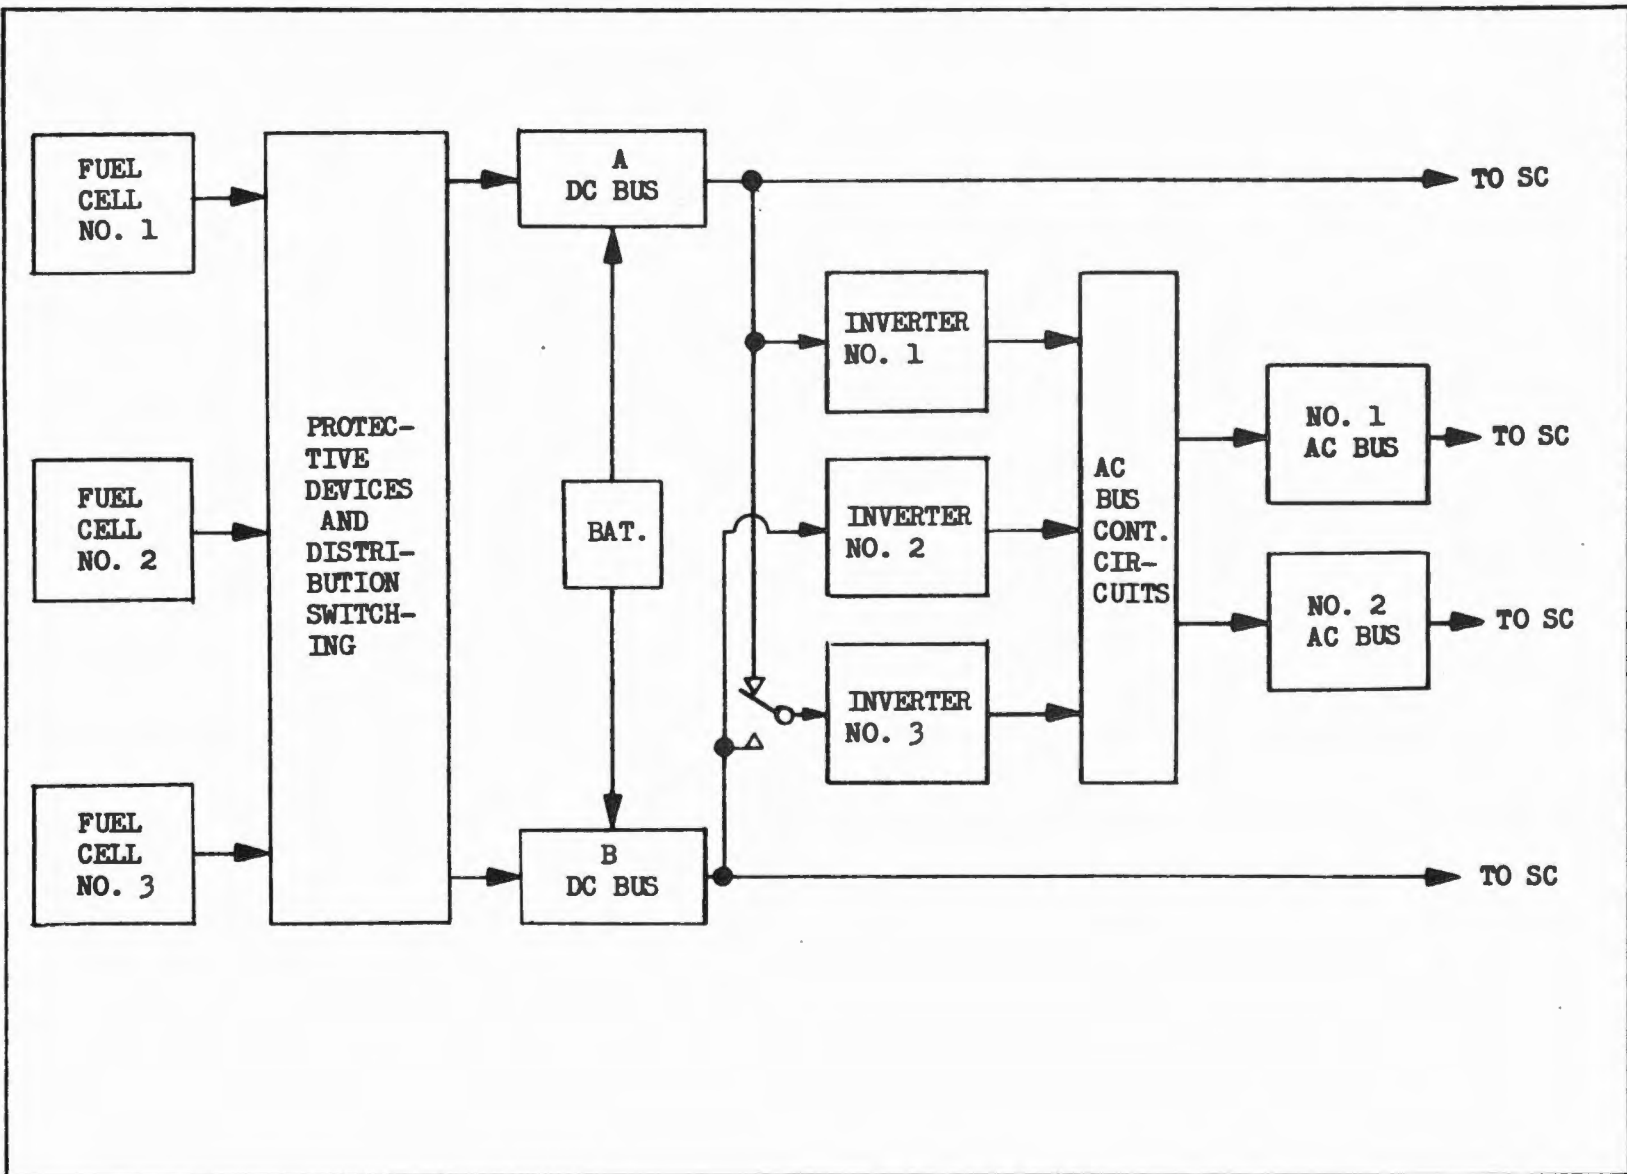
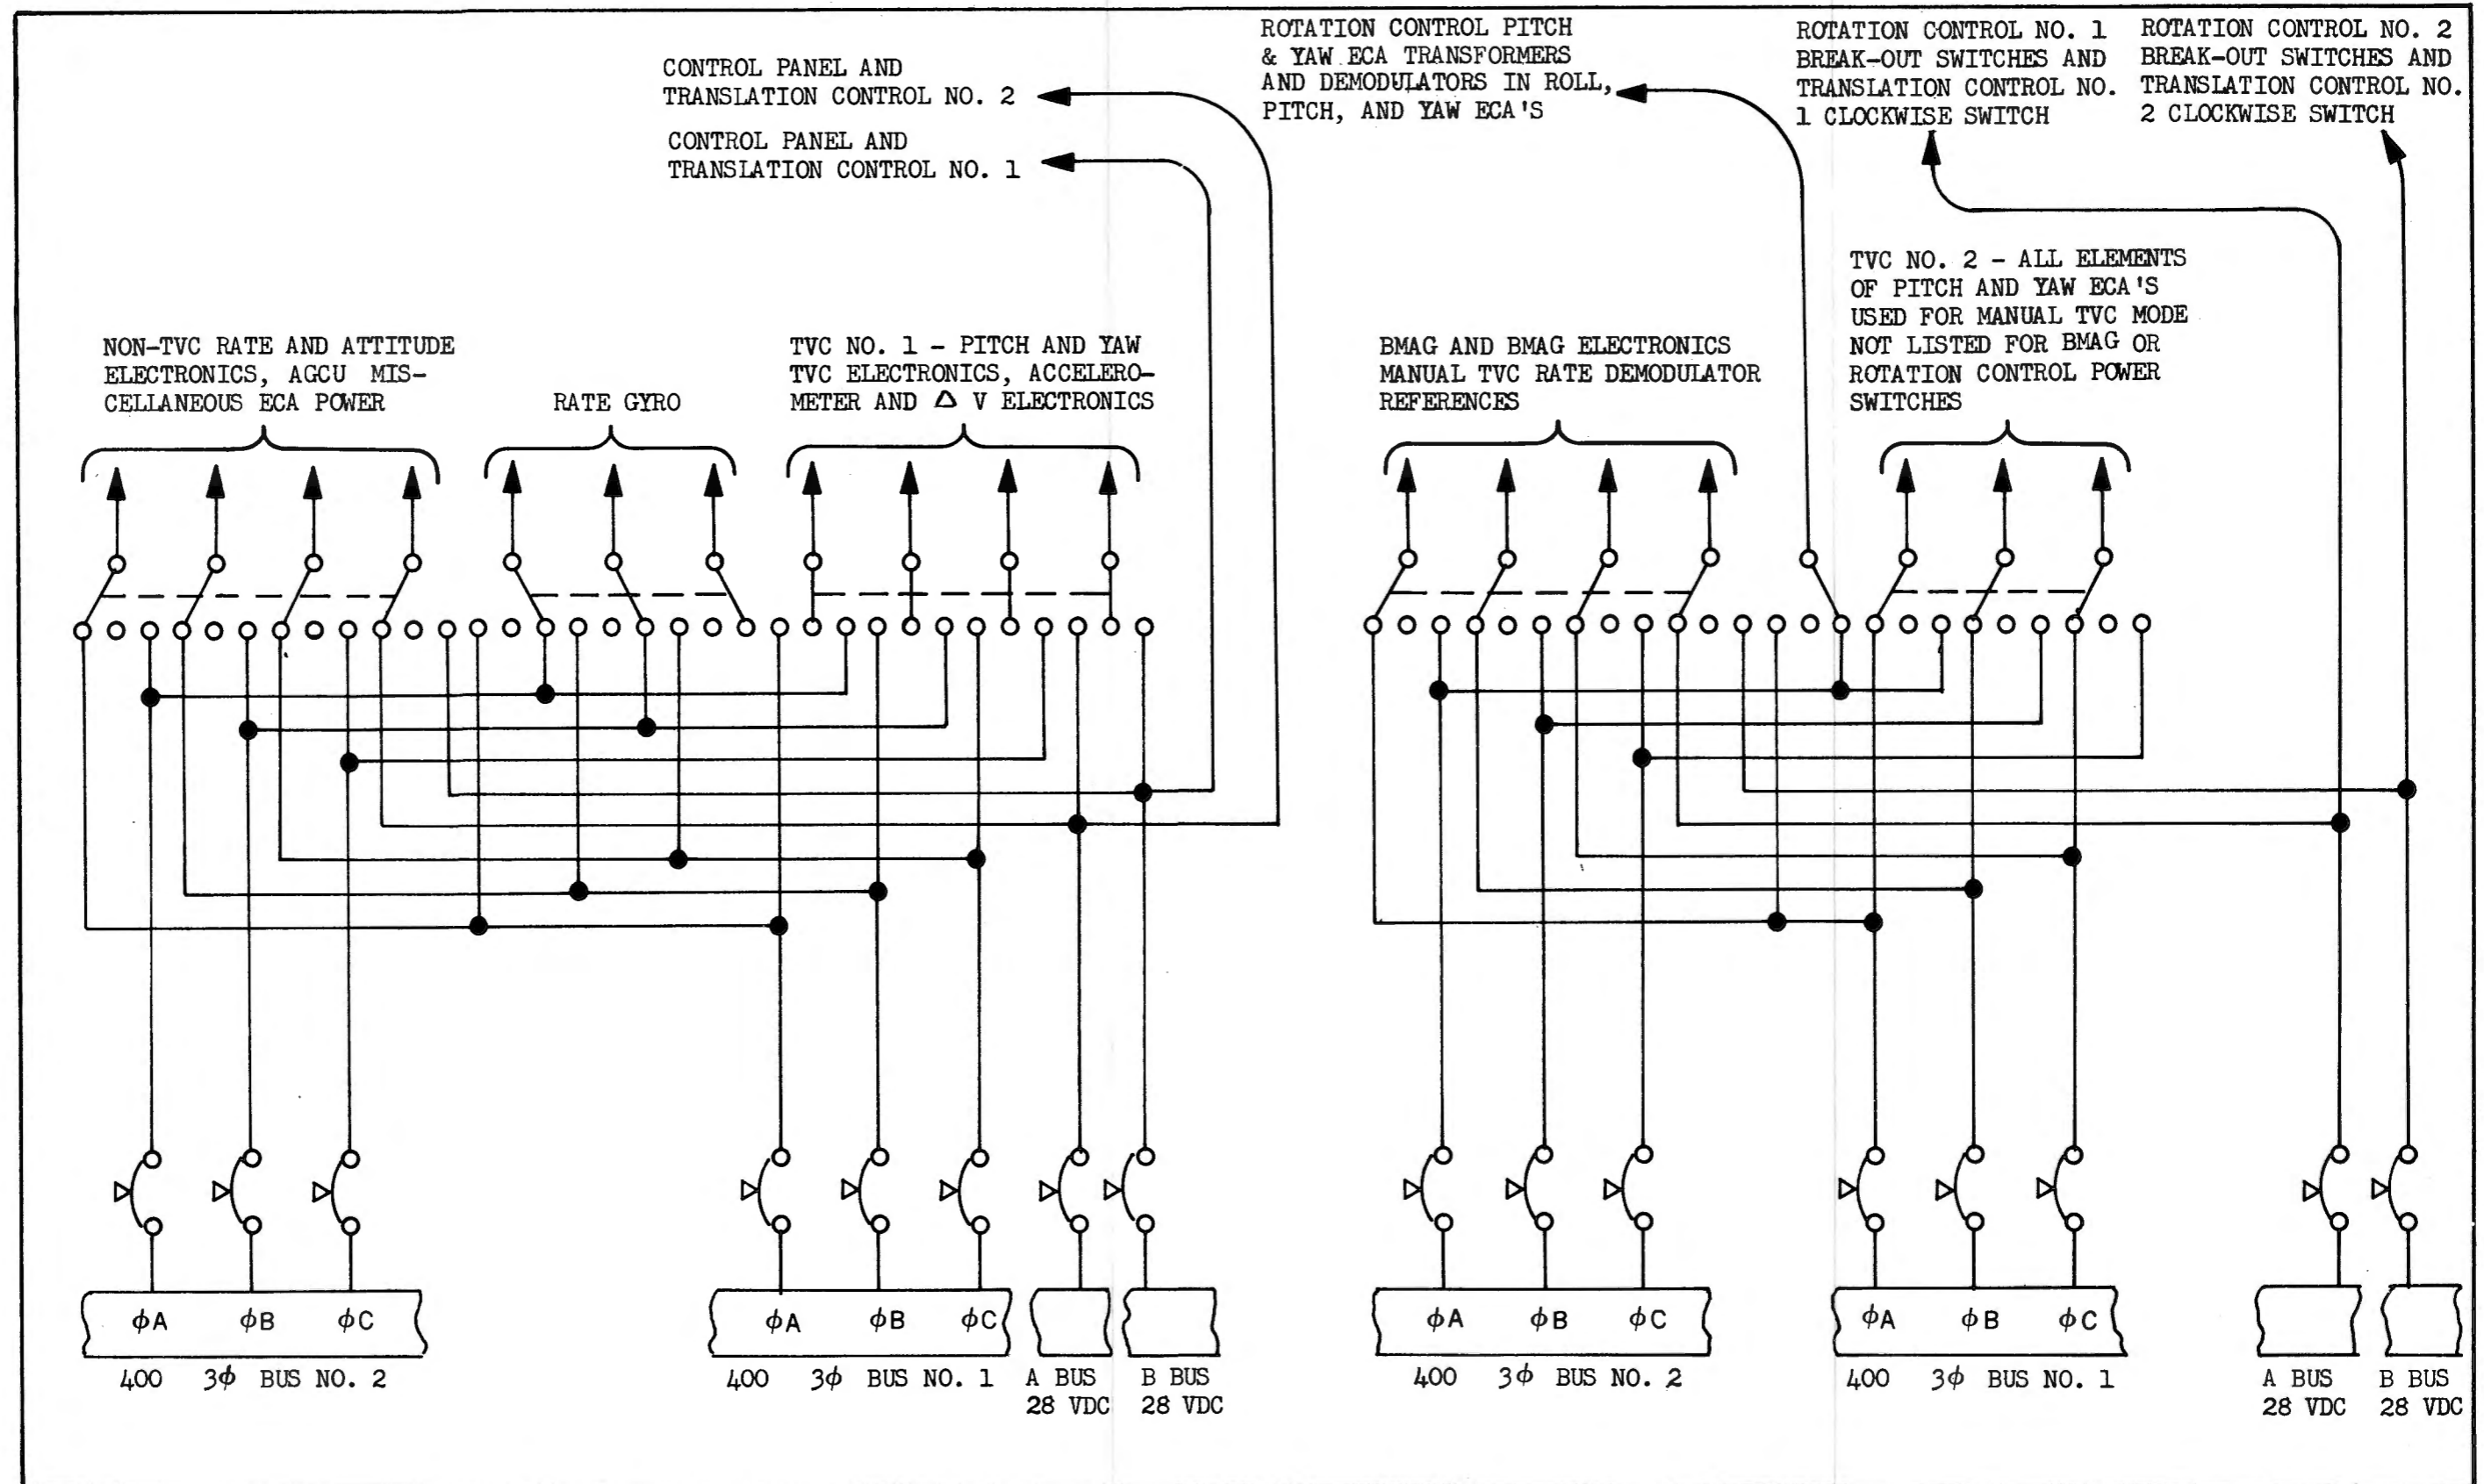

Figure 5-13. Simplified Electrical Power System Diagram
Figure 5-16. SCS Power Switching
5.2.1.1 General. The ac and dc power on the spacecraft is available from redundant buses. The buses may or may not be connected to independent sources of power. In either case, the ultimate sources of energy are the fuel cells and/or batteries. A simplified block diagram of the power sources is included as Figure 5-13. If a more detailed insight is required in this area, the reader is referred to the Electrical Power Systems design area and their reference documents.
5.2.1.3.1 Power Switches. The SCS power switches for each controlled function are connected so that power can either be off, have ac taken from ac bus 1 and dc taken from dc bus A, or have ac taken from ac bus 2 and dc taken from dc bus B. Some of the six power switches are less complex than others. DC is not always used. The Rotation control switch controls only phase A. ac. Figure 5-16 shows the details of the power switching.
5.2.1.3.3 Sensor Control. In the mission timeline the two gyro packages within the SCS must be active. The Rate Gyros are a part of normal TVC control and the BMAG's are a part of the MTVC loops, as mentioned earlier. The Rate Gyro and BMAG power switches are independant. The Rate Gyros use group 1 power and the BMAG's use group 2 power. Refer back to Figure 5-16 for switching details.
5.2.1.4.1 Bus Failures. As shown in Figure 5-16, the power switches of either group may be connected to either pair of ac and dc power. Figure 5-13 also shows that ac and dc power sources may be interchanged between the bus sets or tied together in almost any combination. Where time is not critical this switching flexibility will permit retention of all control functions in spite of temporary bus or power source problems. The control of the spacecraft involves several time and/or environmental critical periods when such switching flexibility is not adequate. Specifically entry and TVC periods have been identified as being time critical.
5.2.1.4.6 SCS Power Switches. Any open in the power path following any of the power switches will cause loss of all functions downstream of that point. Any short will cause the appropriate circuit breaker to open. All switches on that circuit breaker should be turned off. Then one at a time they can be turned back on after resetting the circuit breaker. The failed circuit can be isolated in this way and left off. The functions related to the circuit including the failure will also be lost. Refer to Figure 5-16 for a gross indication of functions lost. Precise determination of the functions lost will require extensive analyses of the SCS Schematic and SCS Wiring diagram for this vehicle.